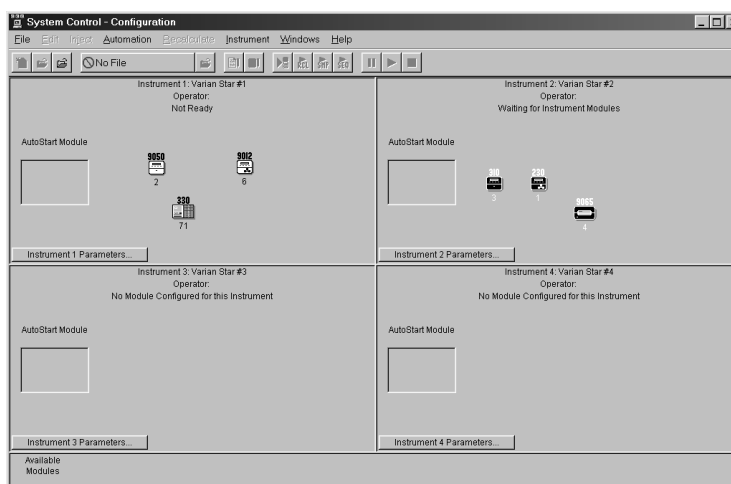

Figure 122. STAR Configuration Window
- Four gray boxes open that represent the four systems that can be run from your computer, see Figure 122. Only the box in the upper left will be used.
3. The new method should have been downloaded (check the endtimes and wavelength of the pump and detector windows) and the method name should now be listed at the top of the page, see **Figure 122**.